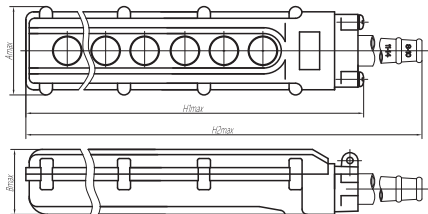

Figure 1 Overall dimensions
1)See Figure 1 and Table 2 for overall dimensions.